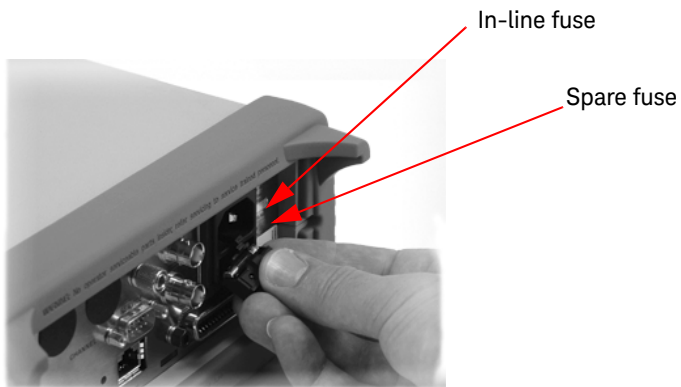

Figure 10-3 Replacing the fuse
- 1 Slide the fuse holder assembly from the rear panel as shown in **Figure 10-3**.
- 2 Install the correct fuse in the “In line” position as shown in **Figure 10-3**. (A spare fuse can be stored in the fuse holder assembly.)